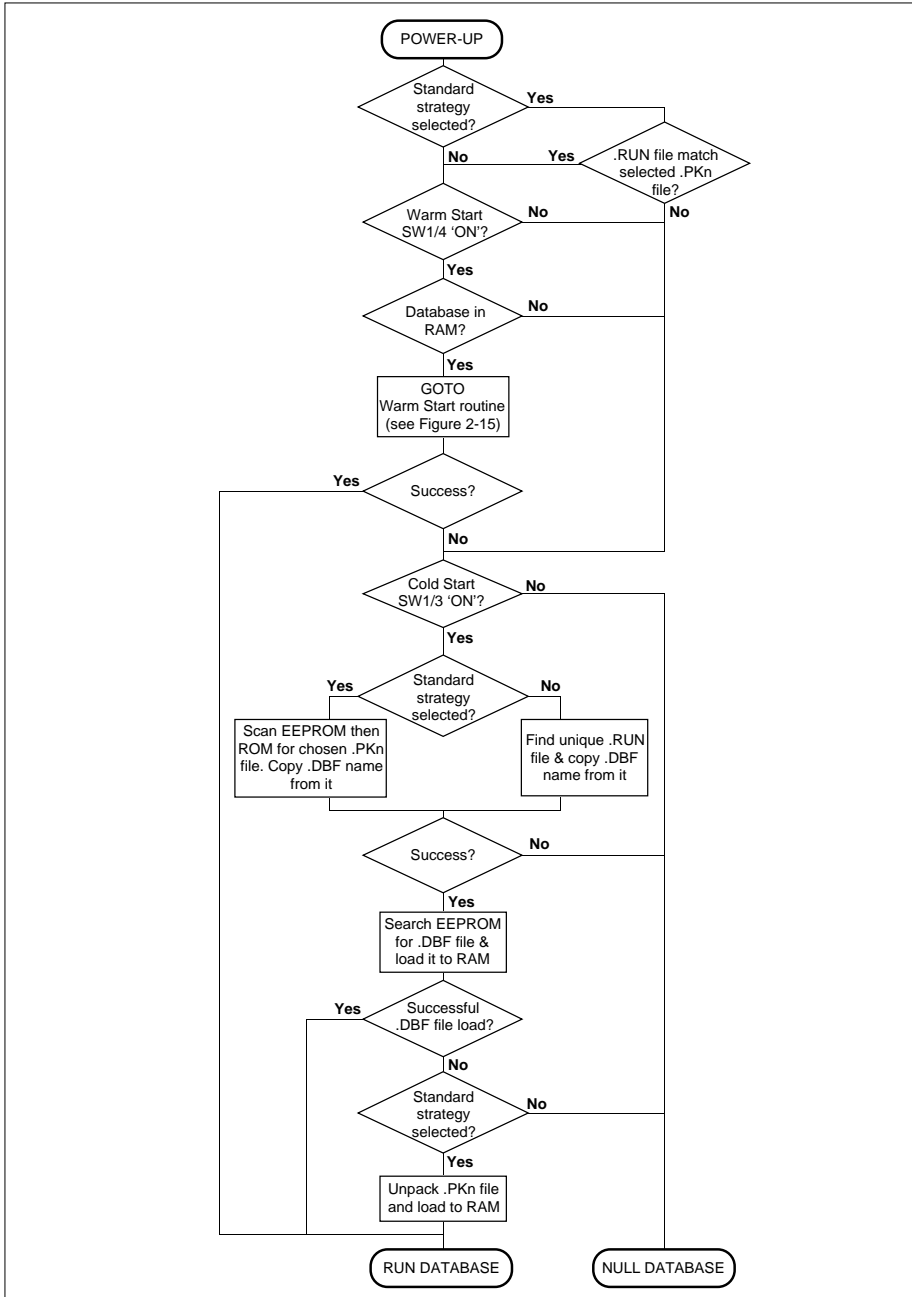
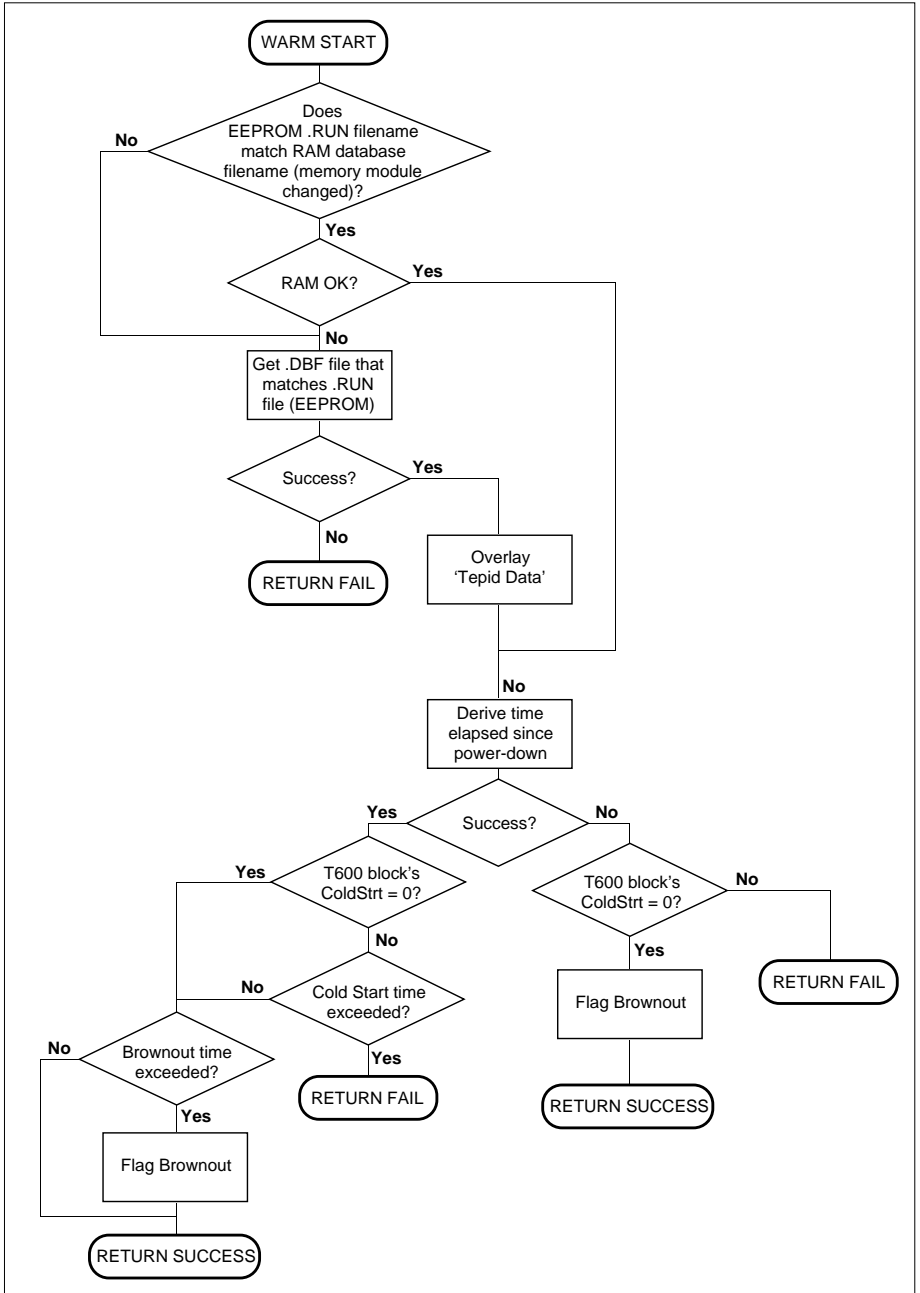

Figure 2-14 T640 power-up routine
Figure 2-15 T640 warm start routine (& see Figure 2-14)
Figure 2-14 charts the events that occur when T640 is powered up. Figure 2-15 shows the warm start routine that may be called during power-up, and should be read in conjunction with Figure 2-14. As there is no hardware realtime clock in the T640, it must derive elapsed time since power-down (needed in the warm start routine) from a clock it maintains over the peer-to-peer communications. If this is not possible, power-up follows the alternative route shown in Figure 2-15. After loading, the entire database is subjected to a sumcheck test.
At the end of each task iteration a package of data is assembled in a .TPD file in RAM, ready to be written to EEPROM should a power-down occur. This data — ‘tepid data’ — includes each loop’s local setpoint (SL), output (OP), and operating mode (MODE). In the event of a power-down, there is enough time for the tepid data in the .TPD file to be transferred rapidly to EEPROM, ready to be used if required during a subsequent warm start routine (see Figure 2-15). The tepid data is ‘coherent’ (see Chapter 8, *Data Coherence*) because it is assembled only from completed tasks.
DIL switchbank SW1, switches 3 and 4, determine how T640 starts up after a power interruption — as charted in Figures 2-14 and 2-15. For normal T640 operation both switches should be 'ON' to provide full warm start and cold start capability.